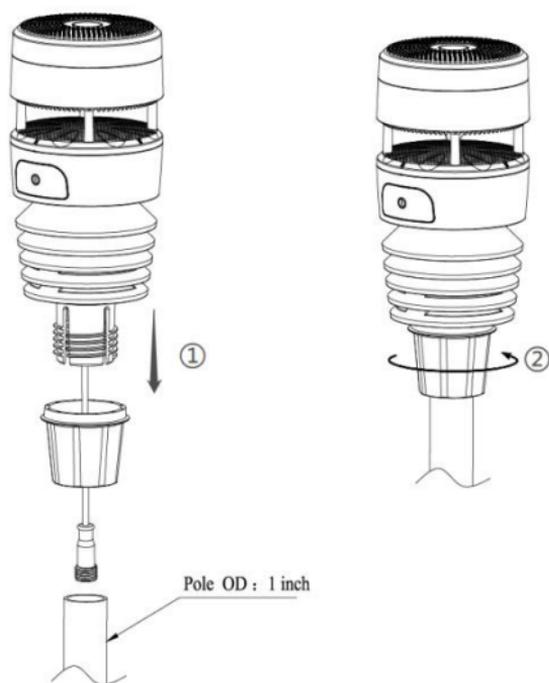

Figure 4: Sensor package mounting diagram
1.You can attach a pole (not included) to a permanent structure and then attach the sensor package to it (see Figure 4).